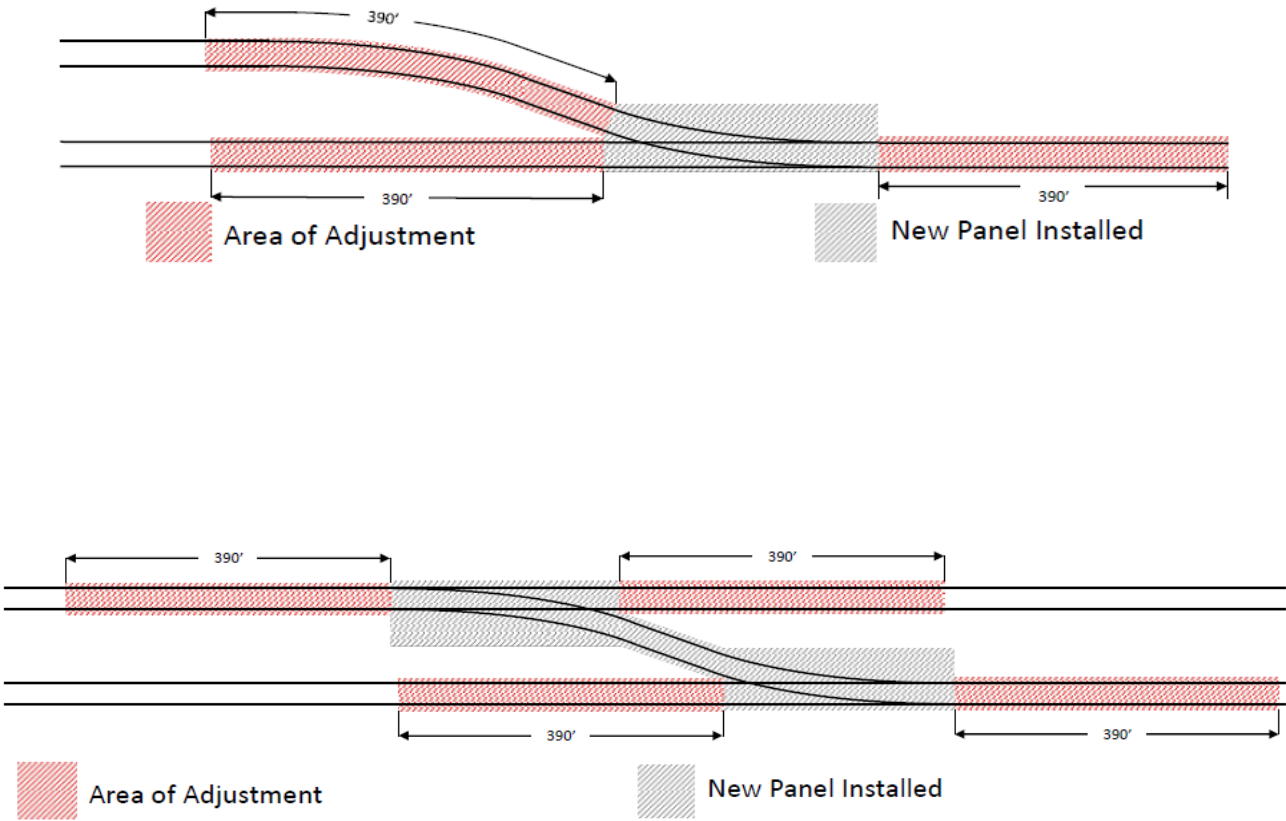

Figure 10 Turnout & Crossover Installation
- b) Turnout Installation: The parent rails shall be adjusted to TRNT over a minimum distance of 390 feet from connection to the turnout. Any track panels or buffer rails between the turnout panels and the parent rails installed as part of the work shall also be included as part of the adjustment. Use the following procedure and Figure 10 when installing and adjusting newly installed turnouts: